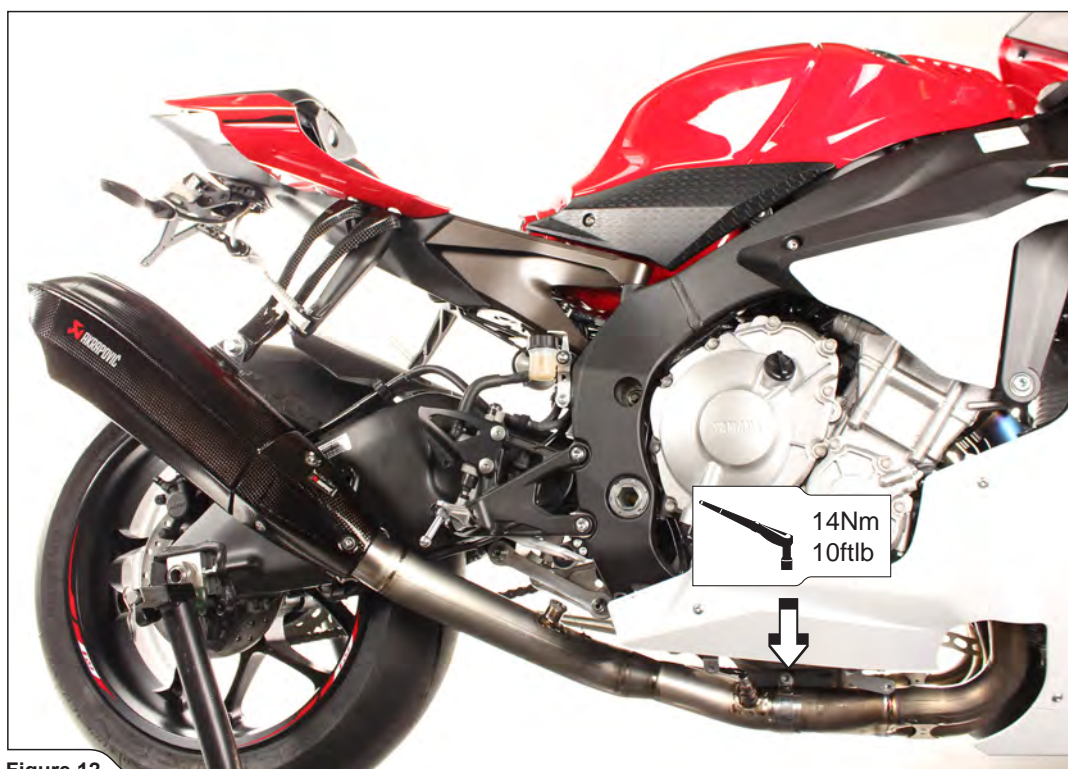

Figure 12
8. Tighten clamps on both sides of the link pipe (Figure 12). Then assemble the cowlings back on the motorcycle in reverse order from the order in which they were removed.